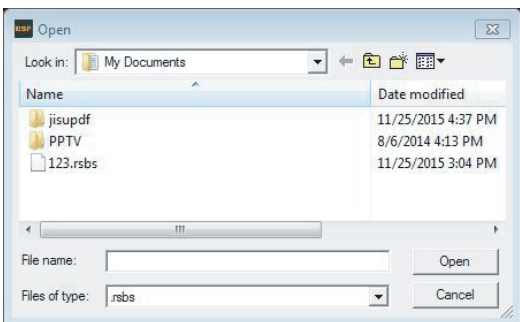

Figure 3.4.7
**Step 2:** Click "computer import" after entry window will pop open file dialog box (Figure 3.4.7).